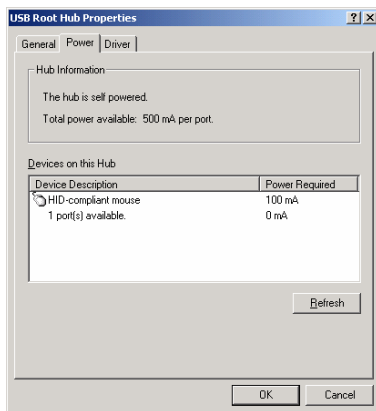

Fig. 1-1 Displaying the total available power of a USB port
| Fig. 1-1  | Displaying the total available power of a USB port.....              | 1.3  |
- Select the **Power** tab (Fig. 1-1). If the hub is self-powered and the total power available is, as indicated by **Hub Information**, 500 mA per port, high-power devices can be connected.